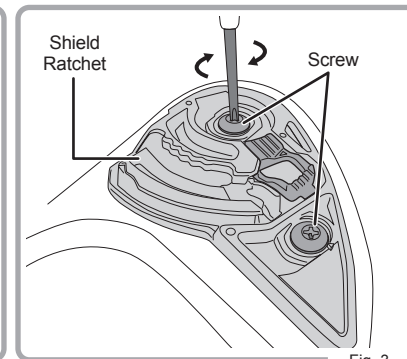

Fig. 3
3. Fasten each Shield Ratchet Screw clockwise securely. (Fig. 3)